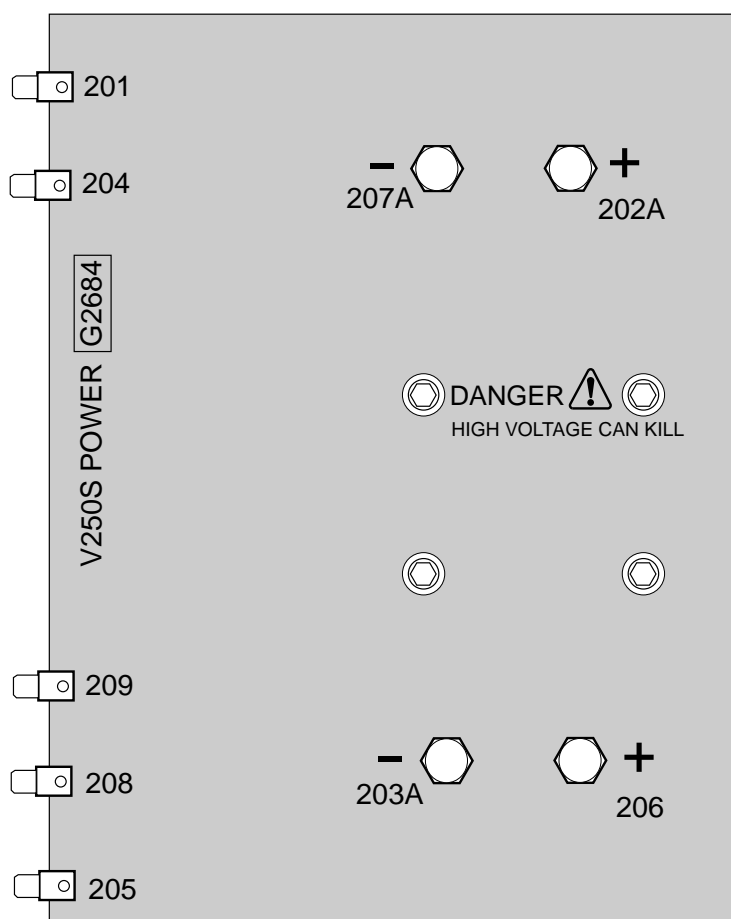

Figure F.3 Power Board Test Points.
3. Locate the Power Board and associated lead locations. See Figure F.3.